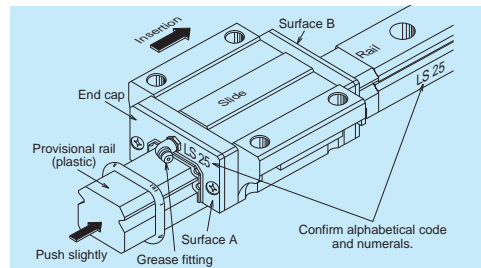

Fig. 9.23 Inserting slide into the rail
(4) Assemble Random-Matching Linear Guide
- Random-matching slide is assembled on a provisional rail (an inserting tool) when it is delivered (Fig. 9.23).
- ① Wipe off the rust preventive oil from the rail and slide.
- ② Please match an groove mark for datum face of slide and rail to become an assembling state desired.
- ③ Align the provisional rail to the rail in the bottom and side faces. Press the provisional rail lightly against the rail, and move the slide over the rail (Fig. 9.23).